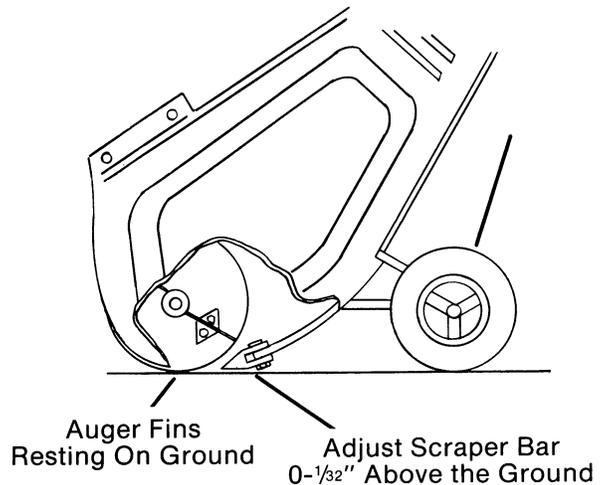

FIG. 27
C. Adjust scraper bar so that it is 0 to 1/32" above the ground line, with the auger fins and wheels resting on the ground. (Fig. 27)